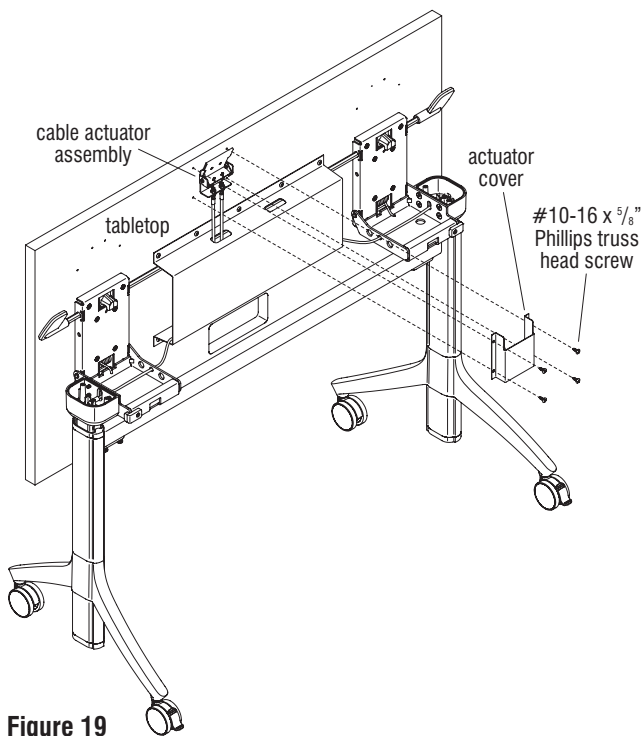

Figure 19
42. At the underside of the tabletop, position the actuator cover above the cable actuator assembly. Secure the cover to the pre-drilled holes in the tabletop using four #10-16 x 5/8" Phillips truss head tapping screws (Figure 19).